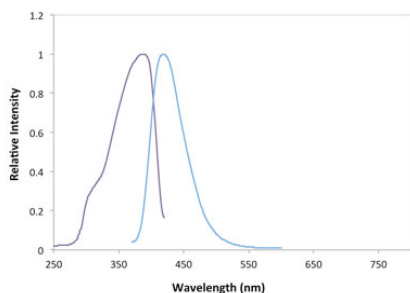
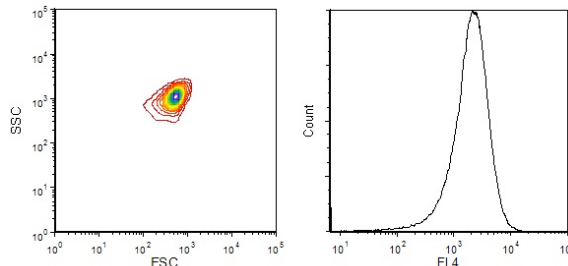

Figure 1. Excitation and emission spectra of Zepto™ UV Carboxyl Microspheres.
Figure 2. FSC-SSC plot and fluorescence histogram in FL4 of Zepto™ UV Carboxyl Microspheres on a flow cytometer.
The excitation and emission spectra are illustrated in Figure 1. They are a suitable for flow cytometry-based assays. Their Forward Scatter (FSC) vs. Side Scatter (SSC) plot and fluorescence histogram in FL4 (405 nm excitation; 455 nm emission) on a typical flow cytometer are illustrated in Figure 2.
1. Gate on the single population of microspheres on FSC vs. SSC plot (refer to Figure 2)